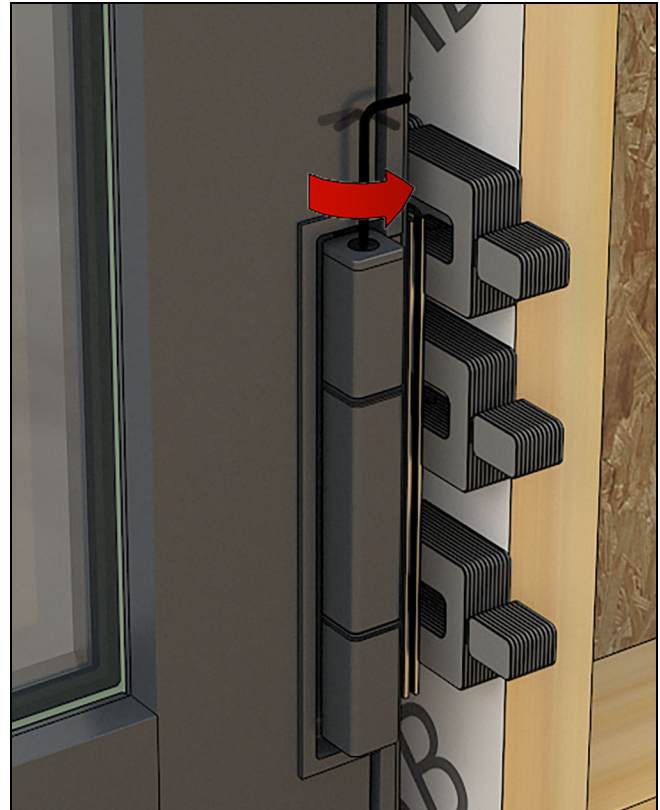
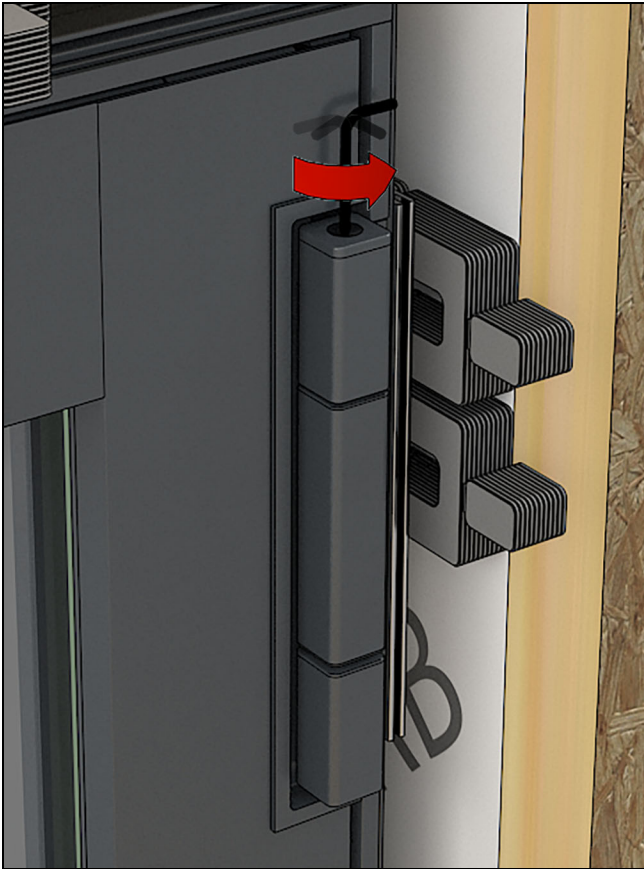

Figure 76 Bottom hinge
Figure 77 Top hinge
2. Starting with the panel in the closed position, use the 3mm wrench to loosen the top screw 3-4 revolutions on both top and bottom hinges. See Figure 76 and Figure 77.